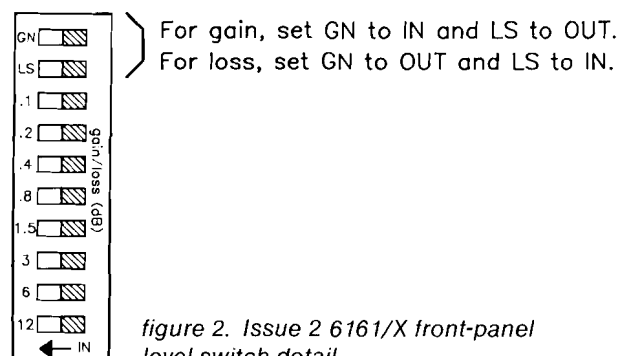

figure 2. Issue 2 6161/X front-panel level switch detail
1.05 When adjusting receive and transmit transmission levels on the Issue 2 6161/X module, please disregard the information concerning the *rcv gn/ls* switch in paragraph 3.15, step B, and the *xmt gn/ls* switch in paragraph 3.16, step H. Instead, select gain or loss for each channel as follows (see figure 2 of this addendum):